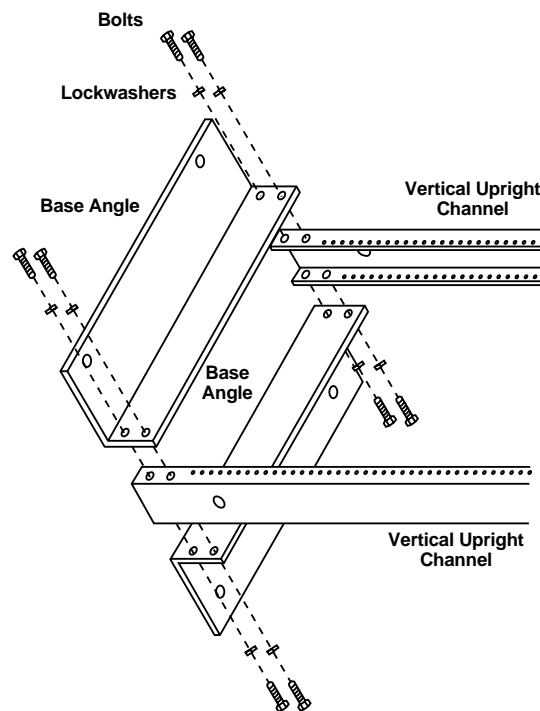

Figure 1-2. Step 2: Attaching the Base Angles to the Vertical Upright Channels.
STEP 2: Attach the base angles to the vertical upright channels. (See **Figure 1-2.**)